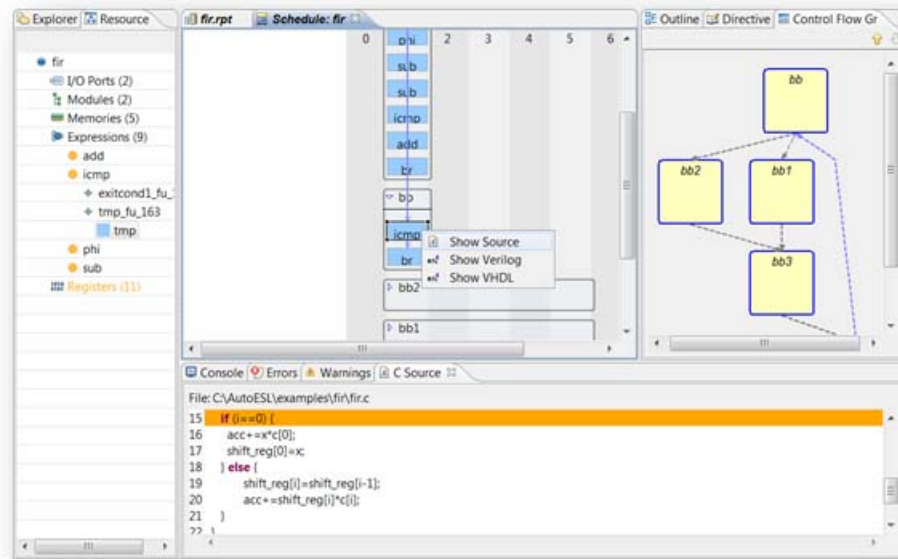

Figure 4-8: Cross-Probing to the Source Code
2. Select the **icmp** operator and right-click to see the pop-up menu (see Figure 4-8).
3. Select **Show Source** from the menu to view the source of this comparison operation in the C source code (see Figure 4-8).